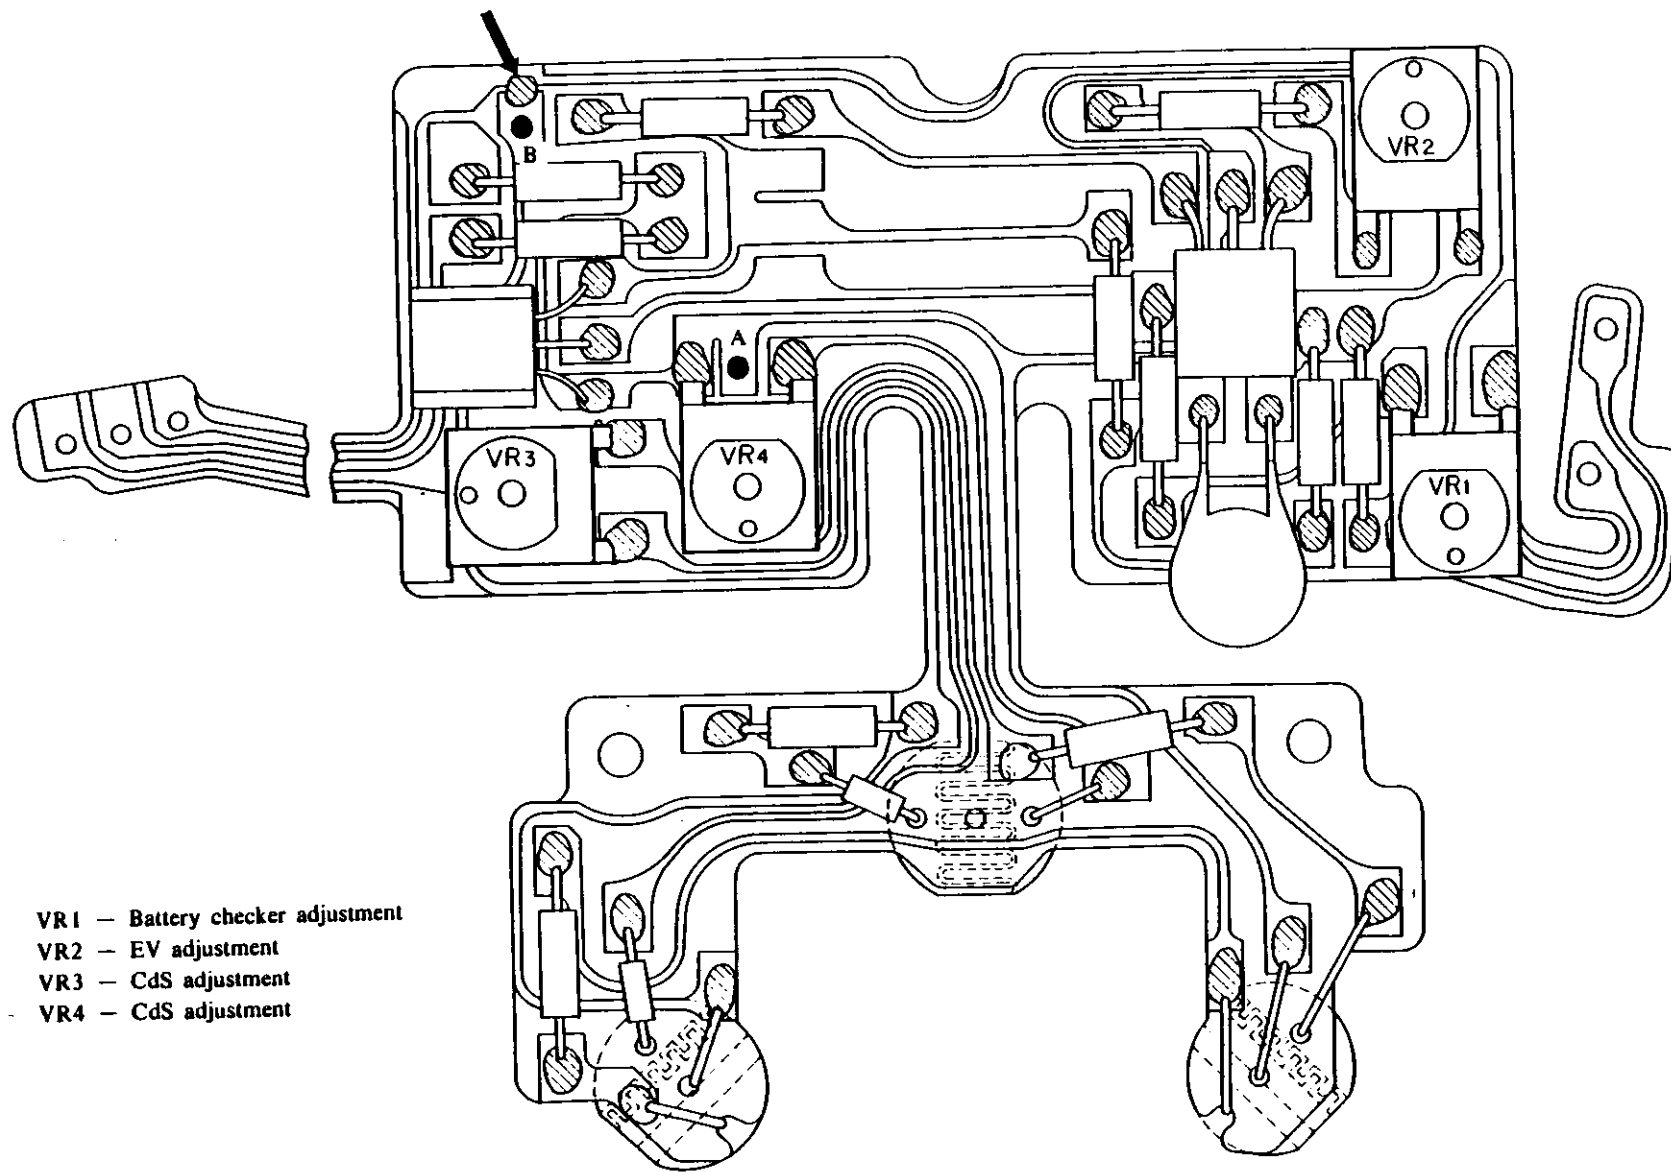

Fig. 25
1) Adjustment of CdS (use the Digital Multi Meter) (Fig. 25)
- 2) When adjusting the CdS, detach the soldered portion at the arrow indicated in Fig. 25, and adjust the part indicated by arrow A and B with a digital multi meter.
3) Checker adjustment (Fig. 25)